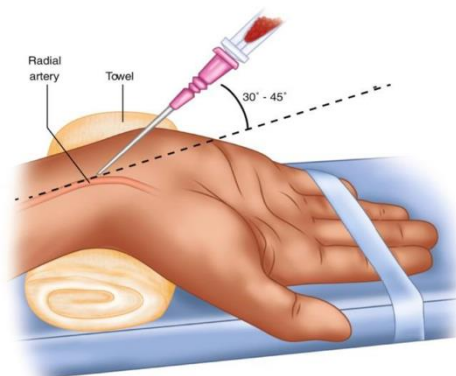

Figure 2.
- If a radial artery is to be used, a rolled towel may be used to hyperextend the wrist to allow easier visualisation of landmarks. (see Figure 2).